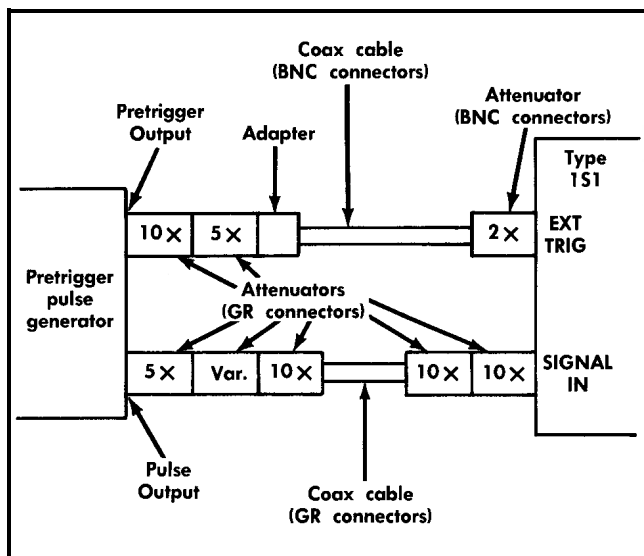

Fig. 5-48. Connections for applying pretrigger pulse generator outputs to Type 1S1 for tangential noise check.
- Connect the pretrigger pulse generator Pulse and Pretrigger Output signals to the Type 1S1 as indicated in Fig. 5-48.